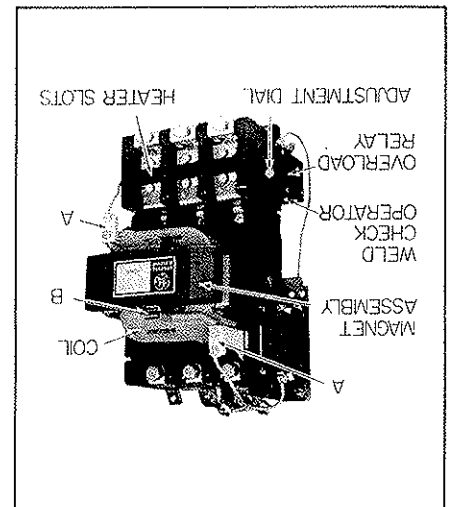

FIGURE 1
- The ultimate tripping current of the installed relay heater can be adjusted $\pm 10\%$ by using adjustment dial shown in Fig. 1.